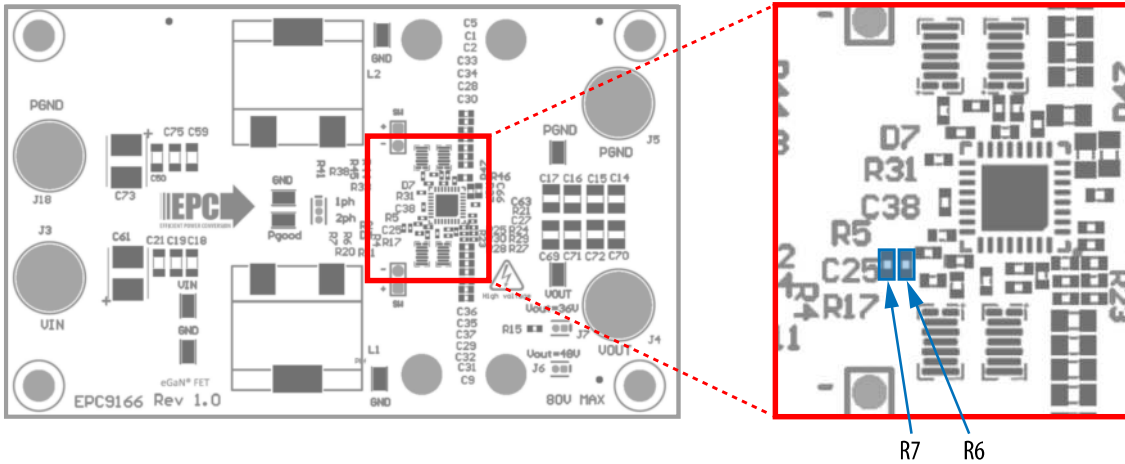

Figure 9: EPC9166 ULVO settings: location of R6 & R7
The input UVLO threshold voltage can be set by R6 and R7 as shown in Figure 9. The default values of  $V_{uv}$  are listed in table 1. If needed, a new UVLO voltage and hysteresis can be set by changing R6 and R7 using equation (1) and (2). Please refer to ISL81807 datasheet for more information.